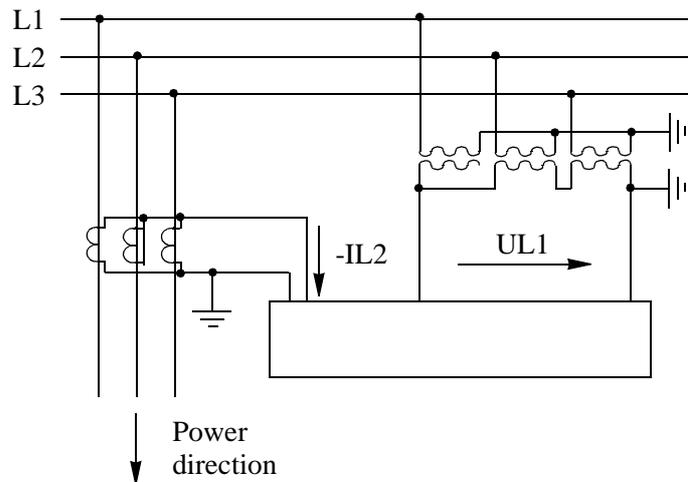

Fig. 52 Directional testing of earth-fault relay with characteristic angle  $\alpha = -90^\circ$
2. Short-circuit the secondary winding of the CT in phase L2 and disconnect it from the relay protection, see Fig. 52. An active load current out in the direction of the line will give a current to the relay which leads the polarising voltage by  $60^\circ$ .